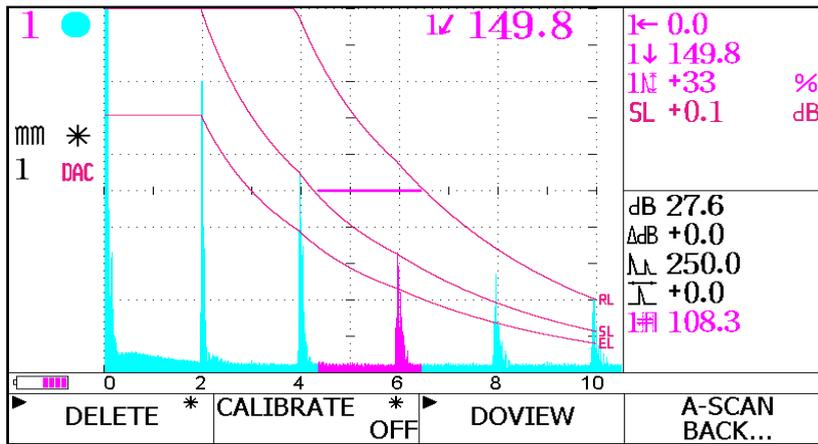

Figure 34. Screen Shot: A-Scan Waveform
- The user is already checking the parameters of the data line in detail (Figure 33, above). Press  again to display the stored A-scan Waveform (Figure 34, below).